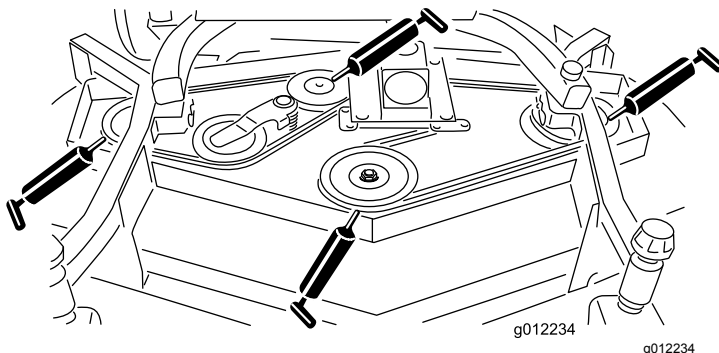

Figure 20
- Spindle shaft bearings (3) (located under the pulley) (Figure 20)
- Idler arm shaft bearings (Figure 20)